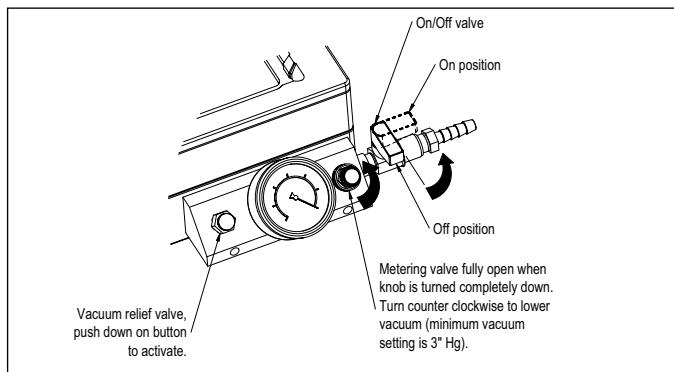

Figure 3
1. Switch the on/off valve to the off position (See Figure 3).
6. Ensure that the on/off switch is in the position (See Figure 3).